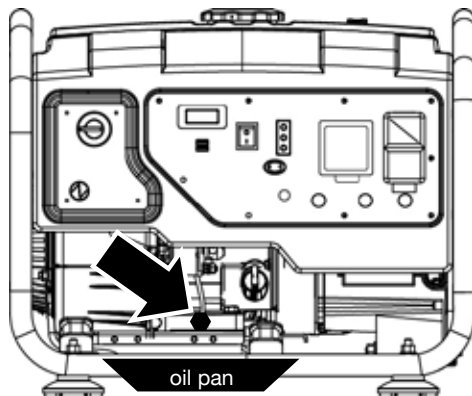

Figure 11: Remove oil drain bolt
4. Place oil pan (or suitable container) under the oil drain bolt (see Figure 11).
6. Remove the oil drain bolt (see Figure 11). Once removed, place the oil drain bolt on a clean surface.